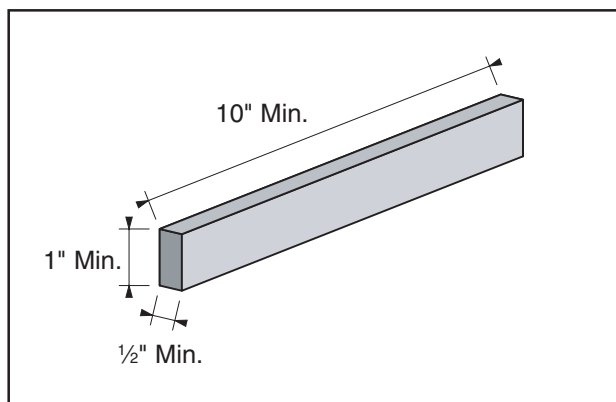

Figure 13. Minimum dimensions for edge jointing.
- **Make sure your workpiece exceeds the minimum dimension requirements (Figures 13 & 14) before edge jointing or surface planing, or it may break or kick back during the operation!**